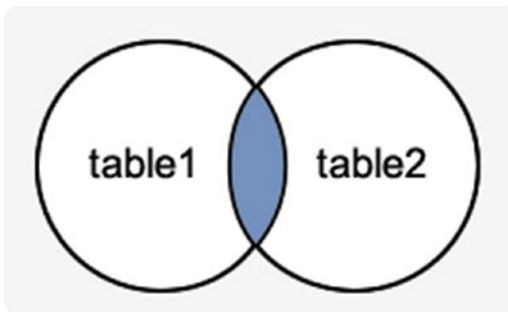

Figure 7-12. Example of an INNER join
■ **Note** An INNER join is the same as a JOIN. They are also referred to as EQUIJOINS. The SQL INNER join returns the records where table1 and table2 intersect an INNER join. See Figure 7-12.